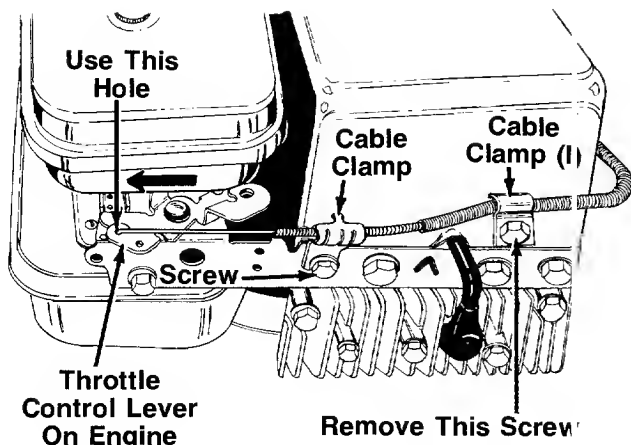

FIGURE 7.
13. Using a 7/16" wrench, remove the screw on the engine shown in figure 7.
15. Push the throttle control lever on the engine to the full open position (as far toward the **outside** of the unit as it will go) as shown in figure 7. Tighten the screw to secure the throttle control cable in this position.